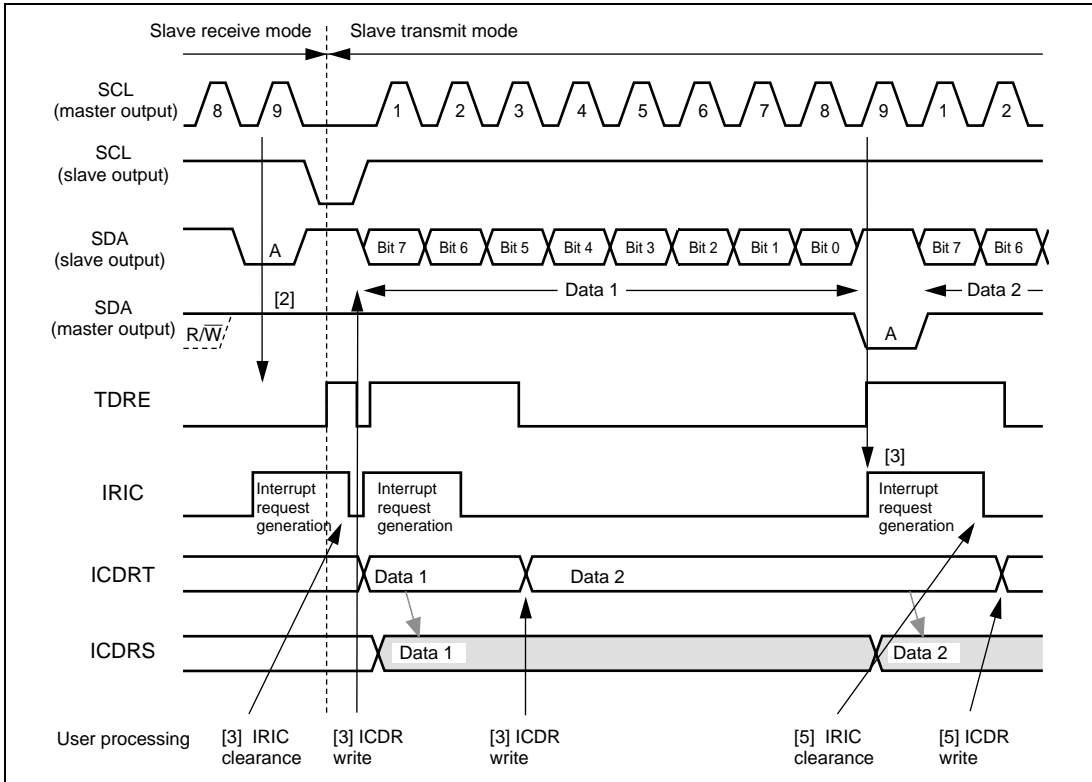

Figure 14.10 Example of Slave Transmit Mode Operation Timing (MLS = 0)
3. After clearing the IRIC flag to 0, write data to ICDR. The TDRE internal flag is cleared to 0. The written data is transferred to ICDRS, and the TDRE internal flag and the IRIC and IRTR flags are set to 1 again. After clearing the IRIC flag to 0, write the next data to ICDR. The slave device sequentially sends the data written into ICDR in accordance with the clock output by the master device at the timing shown in figure 14.10.